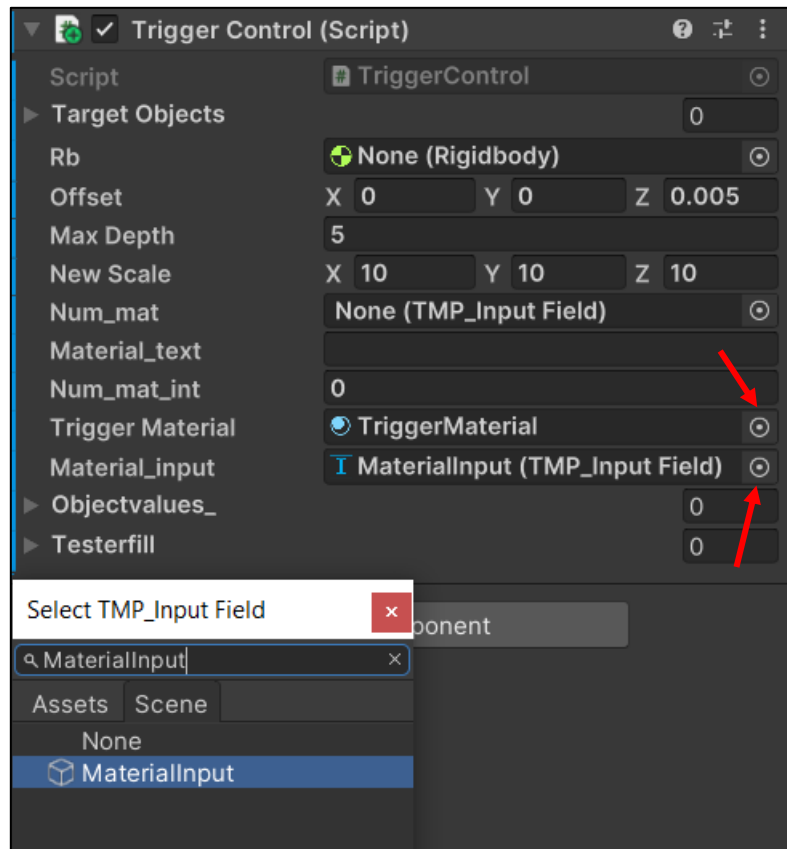

Figure 14: Finalizing the Board
c. Finally, directly under the Trigger Material field should be one titled Material Input. Similar to the last step, click the small circle to the right of the field, but instead type “MaterialInput”, and click the item that comes up. Leave all other fields in this section untouched. Your board is now ready to be run through the simulation. Figure 14 shows what the fields should look like once completed properly.